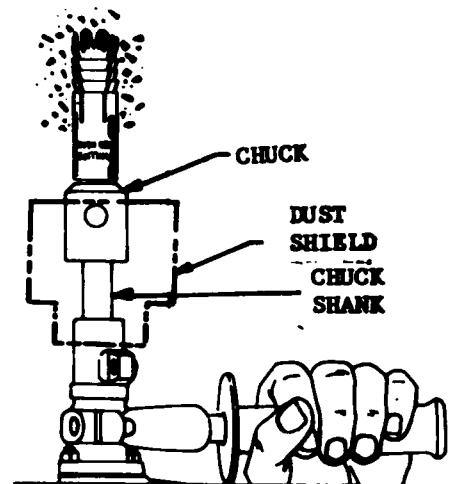

FIG. 1 METHOD OF CATCHING CHIPS WHEN DRILLING CEILINGS (PAR 3.16)
3.16 When drilling ceilings, a dust shield used as shown in Figure 1 will prevent chips and dust from falling on adjacent equipment.